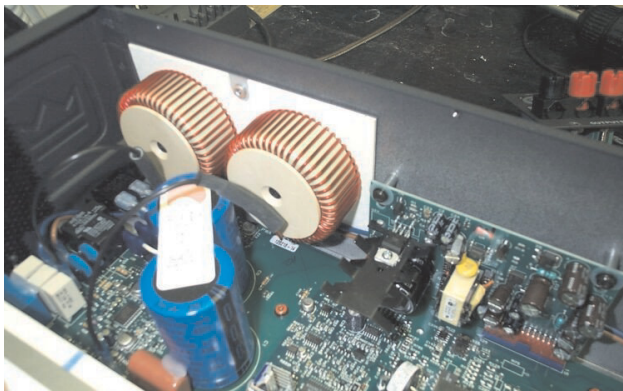

Figure 4.4 Flyback PWA and PFC Coils
2. Remove the two screws and two plastic washers securing the Flyback PWA to the Chassis (see Figure 4.4).